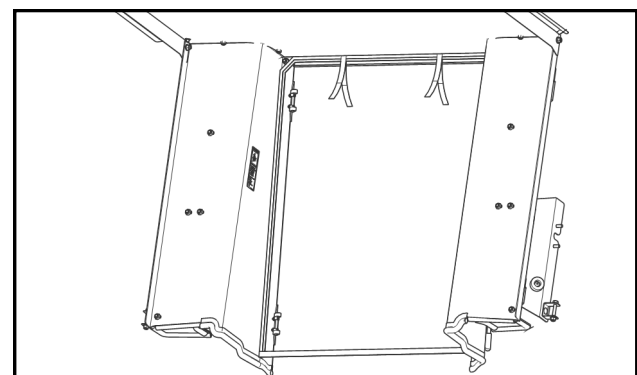

Fig. 11.4 (Upper Rear Curtain, PC or EN cab)
11.4 See fig. 11.4. Pre-install the supplied Velcro hook to the sewn-in Velcro loop on the upper three sides of the upper rear curtain. Leave the release tape on until the filler is in place.